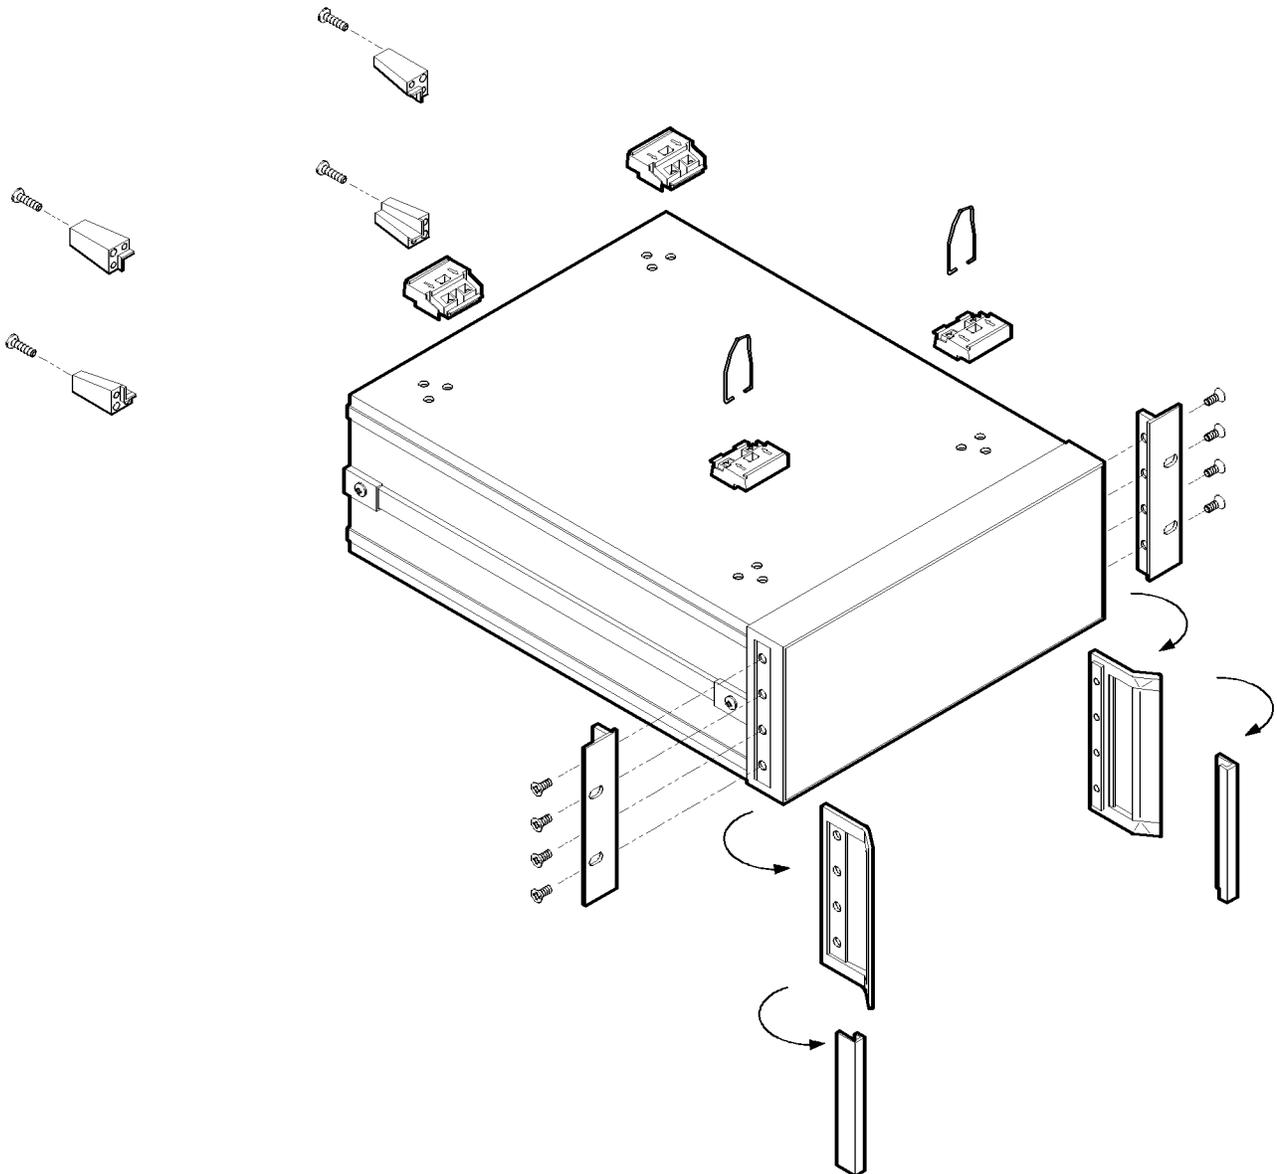

Figure 3-5. Rack Mount Flanges for Swept CW Generators with Handles Removed
1. Refer to Figure 3-5. Remove handle trim strips.